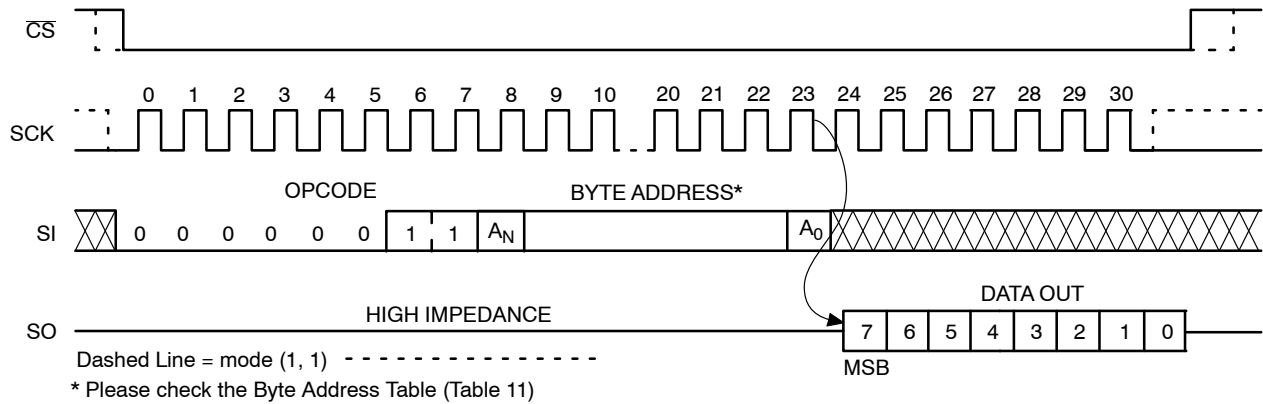

Figure 9. READ Timing
After receiving the last address bit, the NV25512 will respond by shifting out data on the SO pin (as shown in Figure 9). Sequentially stored data can be read out by simply continuing to run the clock. The internal address pointer is automatically incremented to the next higher address as data is shifted out. After reaching the highest memory address, the address counter “rolls over” to the lowest memory address, and the read cycle can be continued indefinitely. The read operation is terminated by taking $\overline{CS}$ high.
Reading the additional 128-byte Identification Page (IP) is achieved using the same Read command sequence as used for Read from main memory array (Figure 9). **The IPL bit from the Status Register must be set (IPL = 1) before attempting to read from the IP.** The [A6:A0] are the address significant bits that point to the data byte shifted out on the